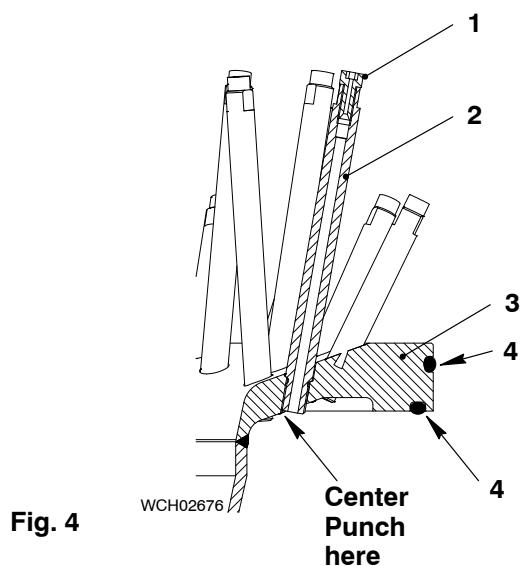

Fig. 4
- 1) Apply Loctite No. 0270 to the thread of the pipe (2, Fig. 4).
- 2) Use the applicable tool to install the pipe (2) to the spray plate (3).
- 3) Use a center punch to lock the pipe (2) in position.
- 4) Apply Loctite No. 0270 to the thread of the nozzle (1).
- 5) Use the applicable tool to install the nozzle (1) to the pipe (2).
- 6) Put oil on the new O-rings (4).
- 7) Install two new O-rings (4) on the spray plate (3).